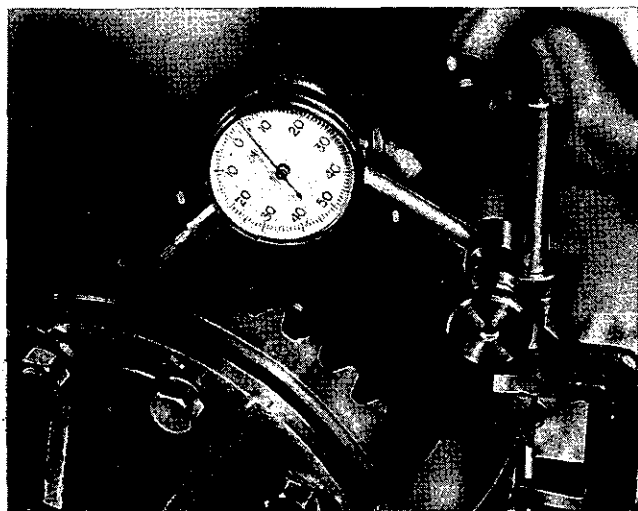

Fig. 22. Checking Crown Wheel and Pinion Backlash with a dial gauge.
22. The bearing caps are now fitted, having regard to the markings indicated on the abutting face. The letters and figures used for these markings will vary. The pinion and crown wheel backlash is checked with a dial gauge as shown in Fig. 22. An average should be taken of several teeth.